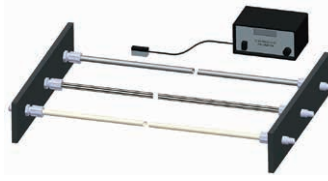

Figure 5: Test setup of four-foot and 28-foot tube lengths
Test assemblies were made to hold four-foot and 28-foot long samples of tubing that simulate how customers would use this tubing (Figure 5). The tube ends were attached to PFA fittings, the same fittings customers use, so that charge would not be discharged through the end connections. To simulate a common flow condition used by customers during the commissioning of their systems, an alternating flow of non-conducting 18 Mohm Deionized (DI) water and Extreme Clean Dry Air (XCDA® purge gas) was used. The tube was cut to length and installed in the fixtures with nonconductive PFA polymer fittings at each end. Tube samples, fittings and probe tips were wiped down with IPA after installation. DI water resistance was measured and monitored throughout the test. The electrostatic voltage field meter was placed with the probe at 1 cm distance from the tube OD.